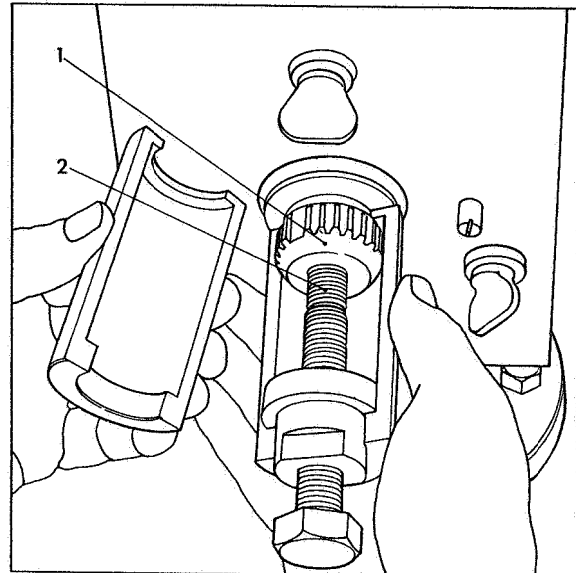

Fig 44 Withdrawing geared hub
With Tool Part No 7244-105 as shown in Fig 44 withdraw geared hub (1) from drive shaft (2) and remove drive shaft key. Detach drive shaft circlip and hub drive thrust washer.